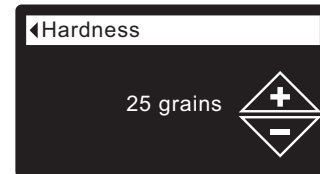

FIG. 104
5. Press the SELECT (O) button to display the Hardness screen (See Figure 104).